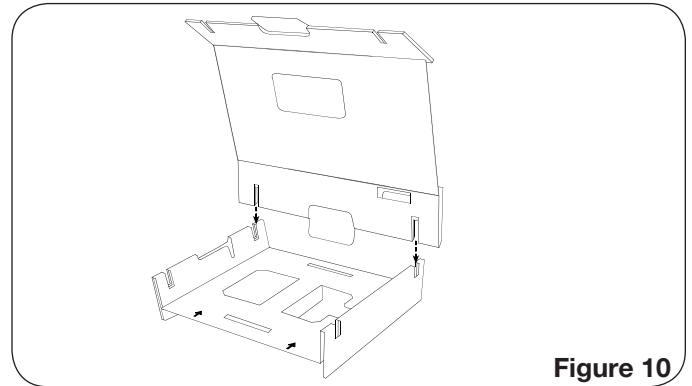

Figure 10
10. Insert sides of bottom into slots of top (Figure 10).